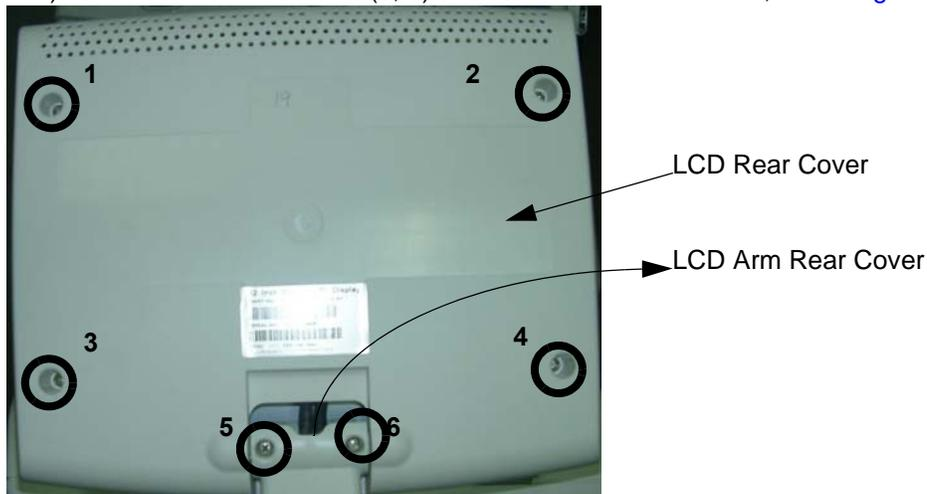

Figure 8-1 LCD Rear Cover
- 2.) Unscrew the two screws (5, 6) and remove LCD arm cover, Refer Figure 8-1 on page 8-2 .
- 3.) Unscrew the four screws (1,2,3,4) to remove LCD Rear Cover, Refer Figure 8-1 on page 8-2
- 3.) Put back LCD arm cover and fix the two screws (5, 6). Refer Figure 8-1 on page 8-2
- 4.) Replace LCD rear cover by fixing the four screws (1, 2, 3, and 4). Refer Figure 8-1 on page 8-2